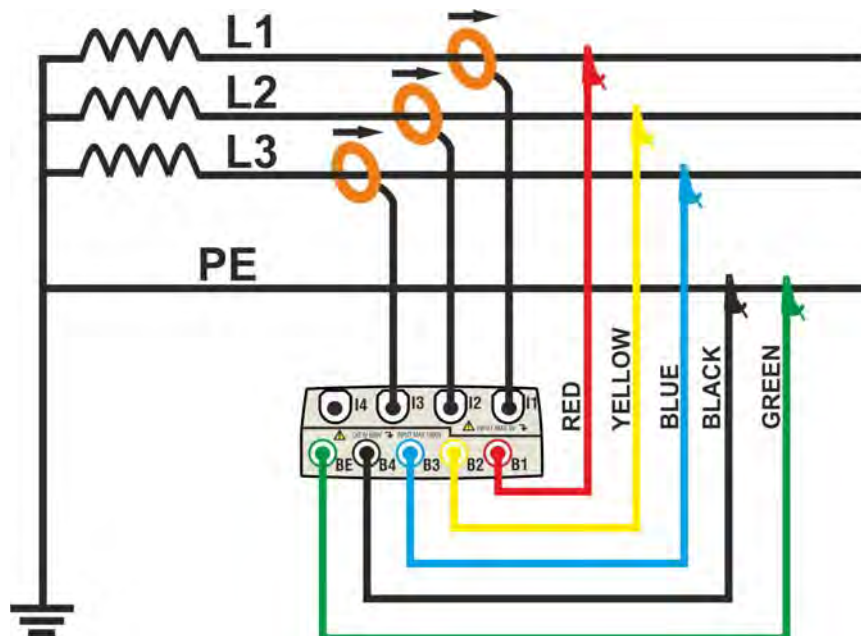

Fig. 119: Meter connection in a three phase 3-wire system – ENG_UK type
2. Connect voltage test leads on Phases L1, L2, L3, and Ground cables respecting the colours as shown in Fig. 119. **Verify the result "123" at display relative to a correct phase sequence indication** (see § 5.2.1) and perform the corrections if necessary.
3. Connect the transducer current clamps on Phase L1, L2, L3 cables as shown in Fig. 119 respecting the clamp's arrow direction indicating the current standard sequence from generator to load. **On Real Time Values' section screens always verify the positive value of Active Power and the power factor relative to load which should be normally inductive** before starting a recording. Reverse the clamp by 180 degrees on cables in case of negative readings.